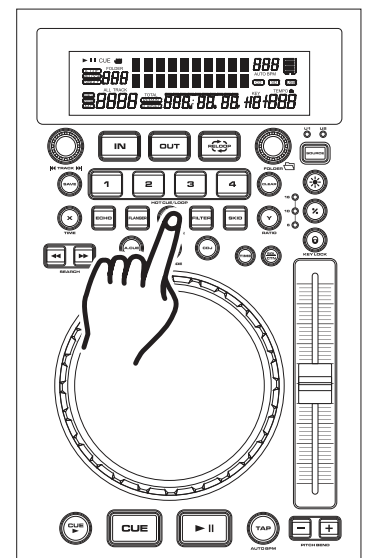

Figure 43
HOLD BUTTON: Use the *HOLD BUTTON (18)* to lock your parameters. If the hold button is not activated any changes to your parameters will be momentary. To activate the hold function press the *HOLD BUTTON (18)* as in figure 43. When the hold function becomes activated, the hold button LED will glow.